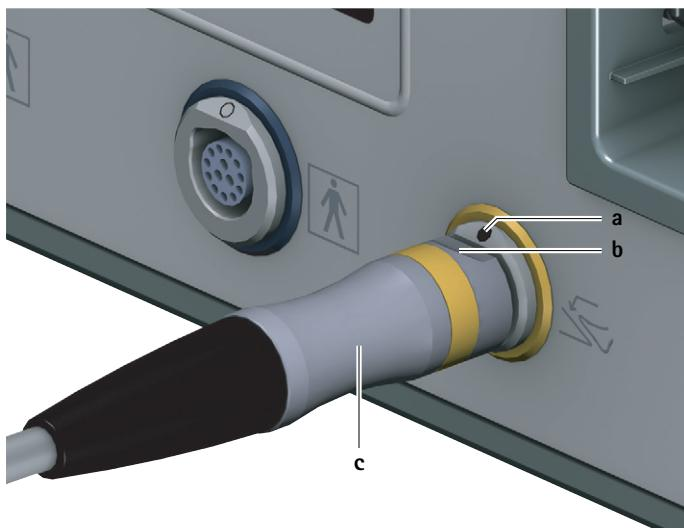

Fig. 2 Connecting the foot control
- ▶ Position connector of foot control **c** so that marking **b** on the connector is aligned with marking **a** on the connection socket for foot control **6**, see Fig. 2.
- Unplug connector for foot control **c** from the connection socket for foot control **6**, see Fig. 2.